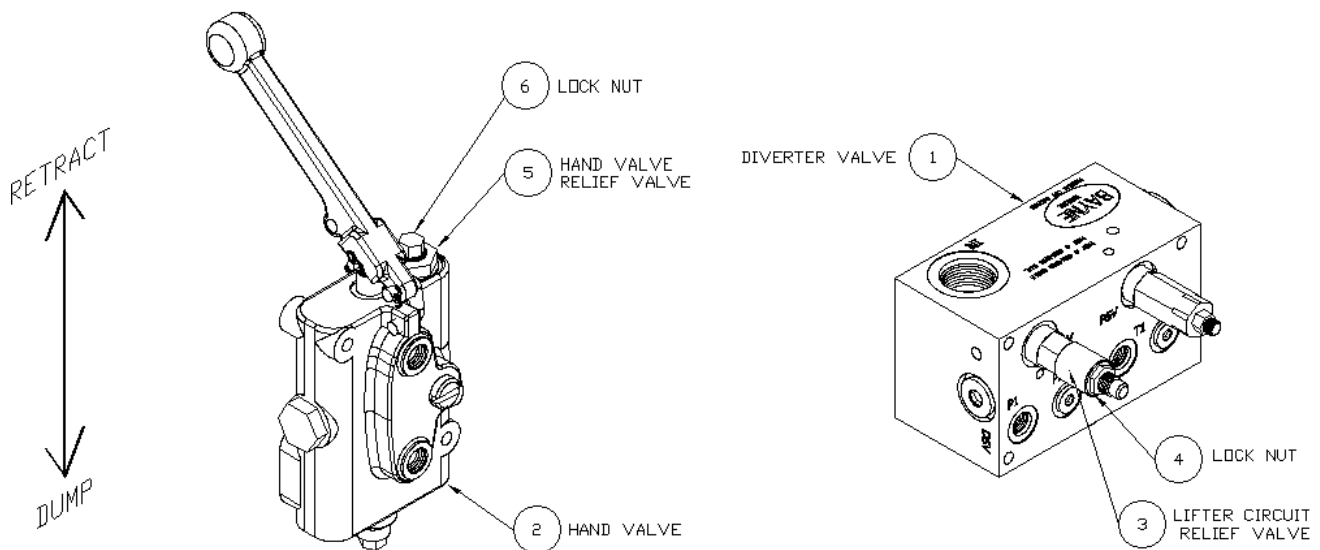

Figure A-4
The diverter valve ( 1 ) ( Figure A-4 ) supplies the cart lifter hydraulic system with approximately 2 GPM of oil flow. This diverter valve is equipped with a full system relief valve ( 4 ) set at 2500 psi, to protect the truck's hydraulic system from any blockages that may occur down stream of the diverter valve. The diverter valve also includes a lifter circuit relief valve ( 3 ) set at 2300 psi, to prevent the diverter valve from shutting down if a blockage occurs in the lifter circuit. There is also a relief valve ( 5 ) set at 1800 psi in the hand valve ( 2 ) to protect the lifter from excessive pressure. These relief valves are preset from the factory to operate properly on most trucks with a system pressure between 2300 and 2500 psi without any adjustment. However, if any adjustment is necessary, follow these instructions.
2. Remove the cap nut(s) ( 8 ) ( Figure A-4 ) from the hand valve relief valve(s) ( 5 ) and turn the adjustment screw(s) clockwise until it bottoms out.
3. Loosen the lock nut ( 6 ) ( Figure A-4 ) on the lifter circuit relief valve ( 3 ) and turn the adjustment screw clockwise until it bottoms out.
4. Loosen the lock nut ( 7 ) ( Figure A-4 ) on the full system relief valve ( 4 ) and turn the adjustment screw counter-clockwise until it stops backing out.
7. Operate the handle on the hand valve ( 2 ) ( Figure A-4 ) back and forth a few times to bleed all air from the lifter hydraulic system.
- a. Have an assistant hold the handle on the hand valve ( 2 ) ( Figure A-4 ) in the "retract" position. **If installing dual lifters hold the handle down on only one of the hand valves.**
- a. Have an assistant hold the handle on the hand valve ( 2 ) ( Figure A-4 ) ( with pressure gauge installed at the "IN" port ) in the "retract" position to show pressure on the gauge.
- a. Hold the handle on the hand valve ( 2 ) ( Figure A-4 ) ( with pressure gauge installed at the "IN" port ) in the "retract" position to show pressure on the gauge.
15. Reinstall the cap nut(s) ( 8 ) ( Figure A-4 ) on the hand valve relief valve(s) ( 5 ) to secure the correct pressure setting (s).
16. Tighten the lock nut ( 7 ) ( Figure A-4 ) on the full system relief valve ( 4 ) to secure the correct pressure setting.
17. Tighten the lock nut ( 6 ) ( Figure A-4 ) on the lifter circuit relief valve ( 3 ) to secure the correct pressure setting.